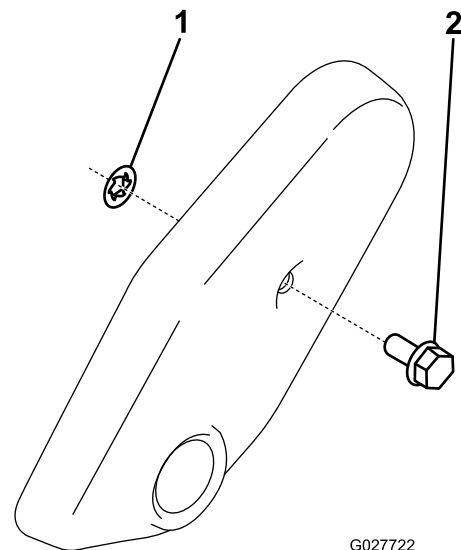

Figure 16
2. Slide the push nut onto the belt-cover plug (Figure 16).